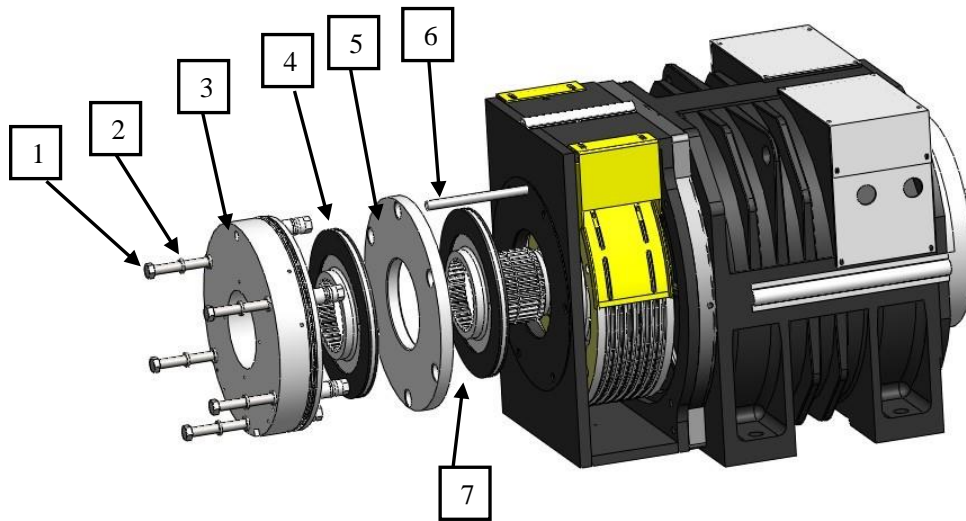

Figure 39: Re-installing Emergency Brake
4. Install the threaded rod M16x320 into the top-hole of brake frame as shown by item 6 in Figure 39 and Table 4.
7. Then install the other brake components according to isometric assembly picture below (Figure 39).